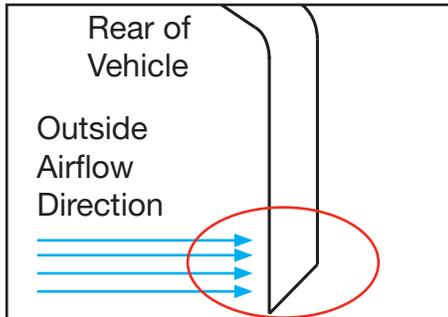

Figure 2: Outlet Vent for Open Configuration
- Ensure the venting location of the outlet is on the rear of the vehicle (or the bottom rear of the engine compartment) and pointing vertically downward (See Figure 2).